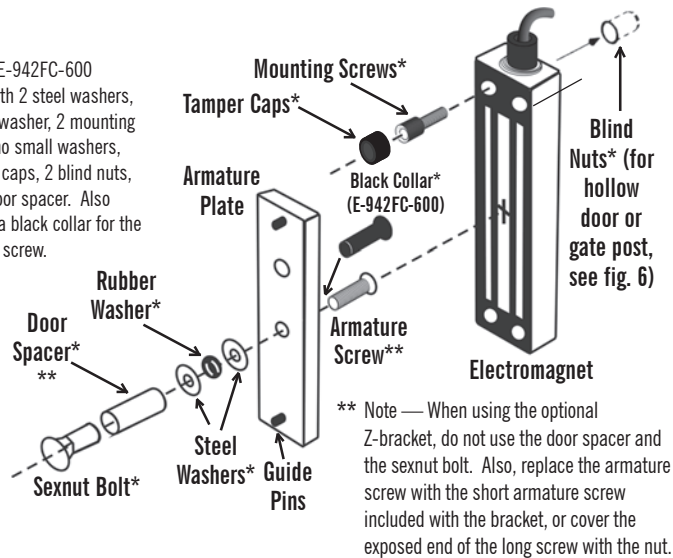

FIG. 2 - Installation on a single-swing gate
- Single-swing gate** (fig. 2) — Gate swings on one end, and comes to rest on a fixed gate post when closed. In this case, a typical installation has the electromagnet fixed to the gate post, and the armature connected to the free end of the gate with a Z-bracket.